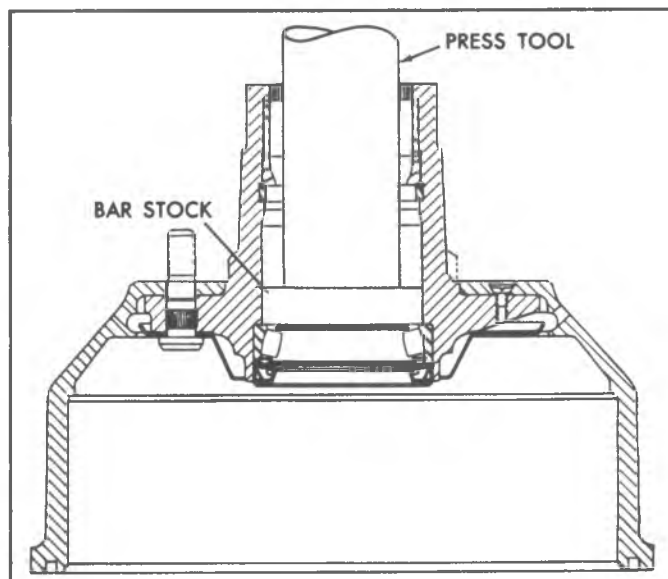

Fig. 72—Removing Hub Inner Bearing Cup
1. Cut a suitable length of 1/2 inch steel bar stock for press-out tool as shown in figure 72.